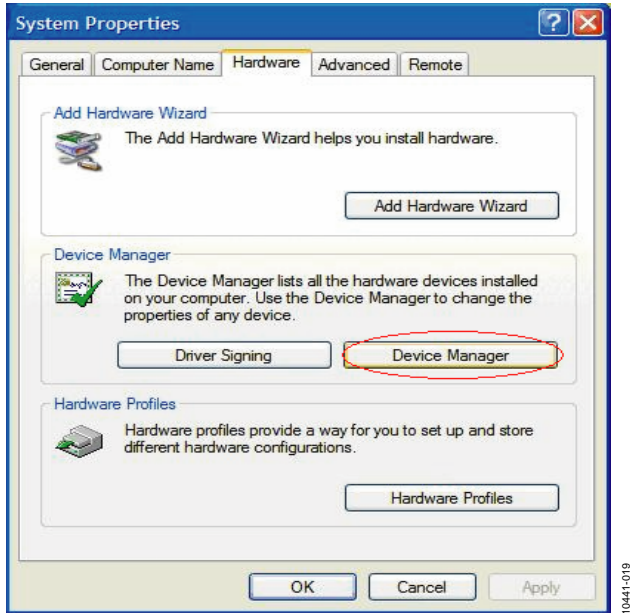

Figure 18. System Properties
2. Go to the **Hardware** tab, and click **Device Manager** (see Figure 18).